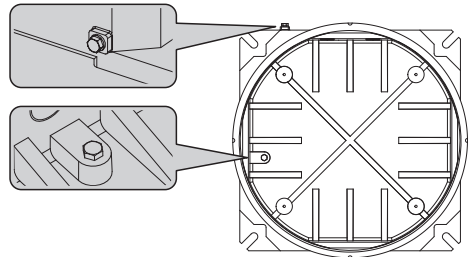

Fig. 02 Internal/external hearth-screws positions.
**The power supply of EXDTRX3 receiver is 230Vac, 50/60Hz. The receiver must be earthed using the internal and external earth screws (Fig. 02, page 8).**
The power supply of EXDTRX324 receiver is 24Vac, 50/60Hz. The receiver must be earthed using the internal and external earth screws (Fig. 02, page 8).